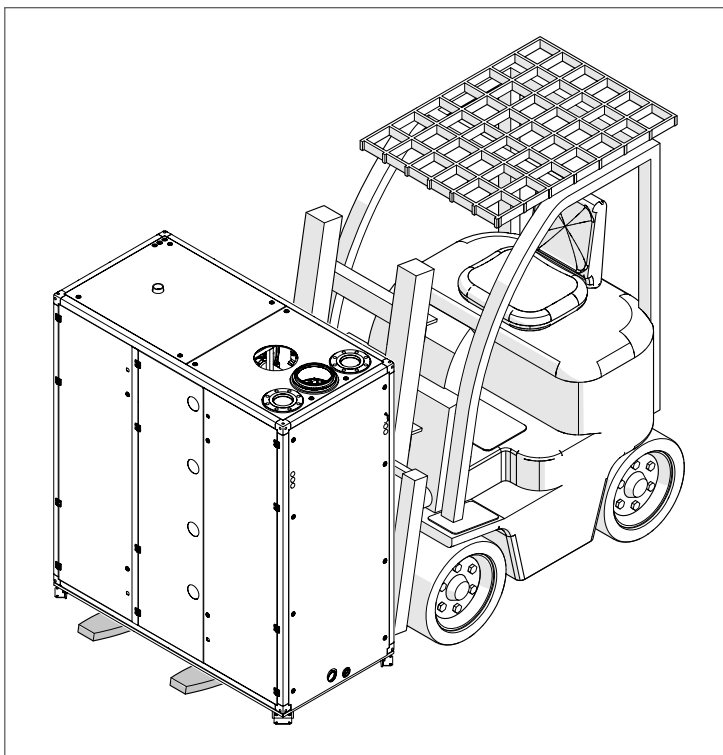

Fig. 4 Array AR 3000 and AR 4000 Forklift Handling
**⚠ WARNING:** When lifting or moving the boiler with a forklift: make sure the forks are longer than the boiler size (width or depth) so that the lifting forks stick out as Fig. 4.